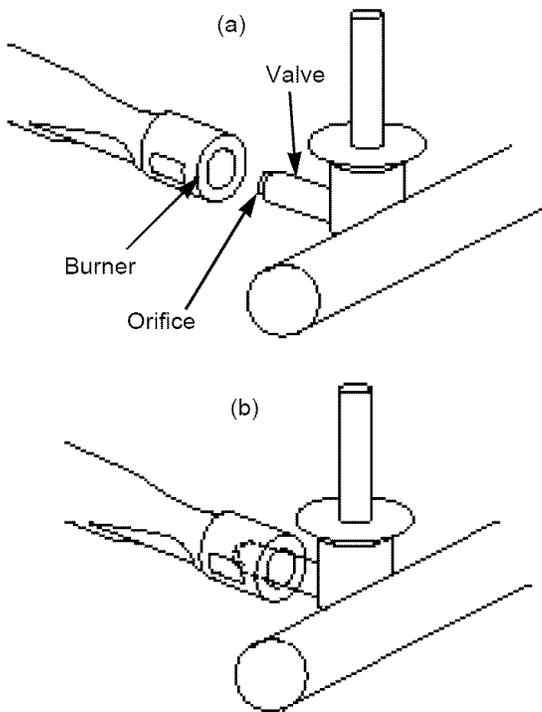

Figure 16
**CAUTION: The burner openings must be positioned properly over the valve orifices. Figure 16 (a).**
Check proper assembly before fastening manifold in place. Figure 16 (b).